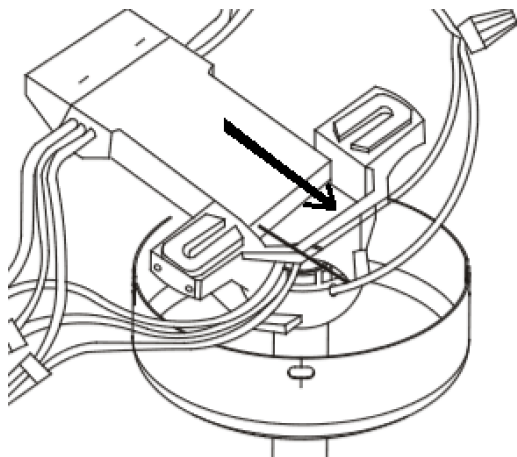

Fig. 11
9. Carefully insert the Remote Receiver above the hanger ball in the remainder spacing in the mounting bracket. Take care not to damage or loosen any of the wiring. (Fig. 11)